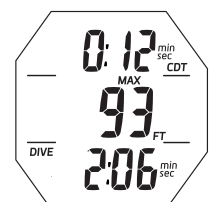

Fig. 63 - DIVE MAIN (on surface < BDSI set)
- > Current Depth* with FT (or M) icon. *Max Depth when on the surface during the BDSI time set (Fig. 63).